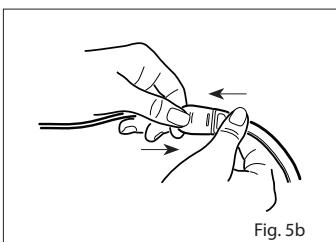

Fig. 5b
- Refer to Fig. 5b. Insert the sensor tab into the patient cable until there is a tactile or audible click of connection. Gently tug on the connectors to ensure a positive contact. Tape may be used to secure the cable to the patient for ease of movement.